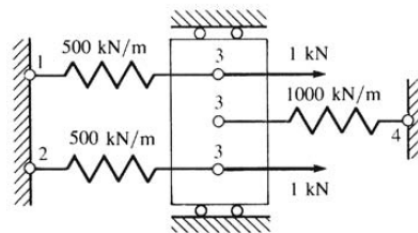

Figure 10
- Q4** For the spring assemblage shown in Figure 10, obtain the global stiffness matrix and the displacements at node 3. **(16)**